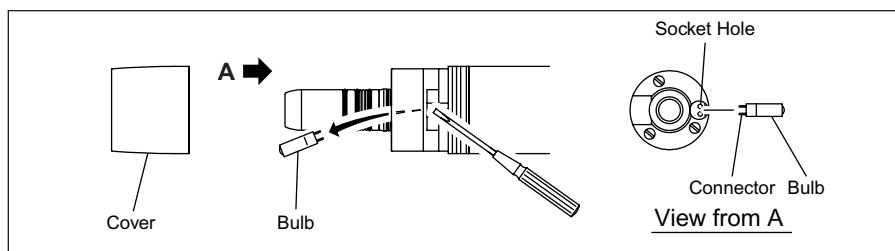

Fig. 6
- ① Loosen Motor Housing and detach from the motor, and remove the old light bulb using the small pin, like the screw driver. (Fig. 6)
- ② Align and insert the connector of the new bulb into the socket hole securely. Screw the motor housing securely to the motor.